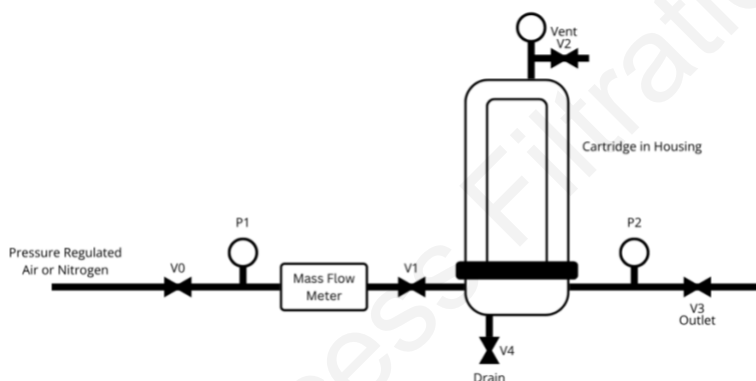

Figure 1A: Cartridge Diffusion Test Attachment to Housing Inlet
3. Typical setups for diffusion testing using a mass flow meter are shown in Figures 1A and 1B (the only difference being where the gas inlet is connected).